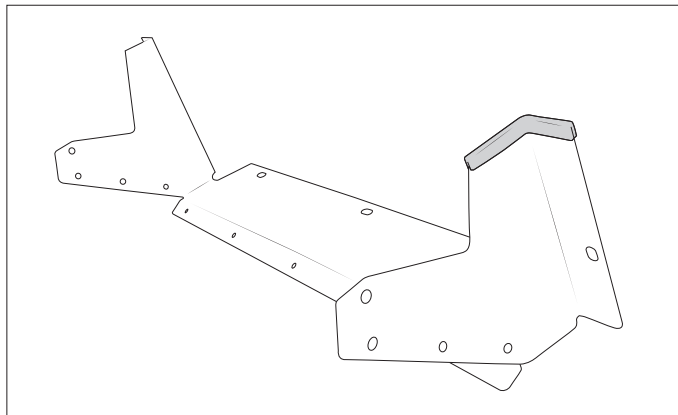

Figure 46
1. Install edge guard onto the left side of the intercooler shroud to protect winch wiring (fig. 46).